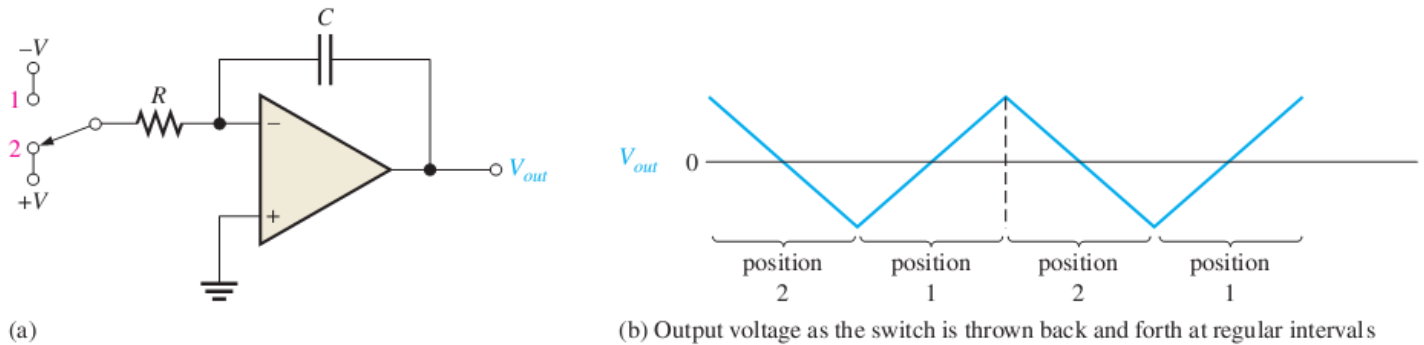

Figure 24 Basic triangular-wave oscillator.
- The basic idea is illustrated in Figure 24(a) where a dual-polarity, switched input is used.
- If the switch is thrown back and forth at fixed intervals, the output is a triangular wave consisting of alternating positive-going and negative-going ramps, as shown in Figure 24(b).